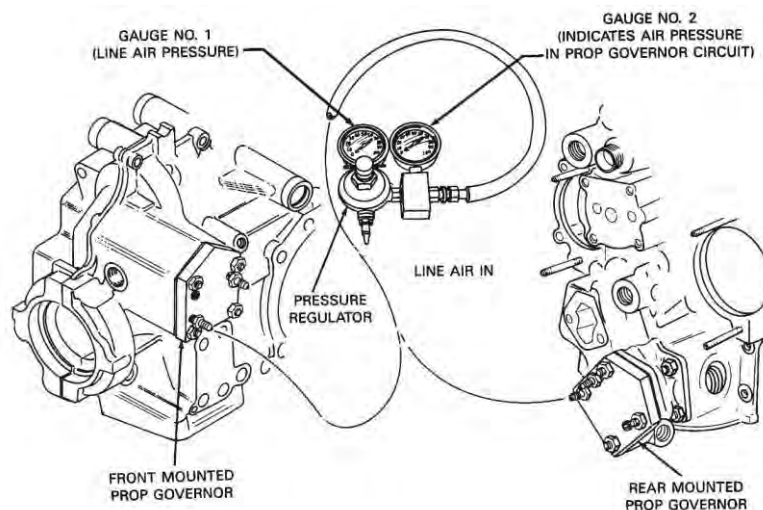

Figure 97
- (7) Apply shop air to the differential pressure regulator and adjust it to 40 psi (276 kPa) on the Gauge No. 1 (Figure 97. With the engine at operating temperature, the pressure reading on the Gauge No. 2 must read 6 to 35 psi (41 to 241 kPa), if the system is operating correctly.